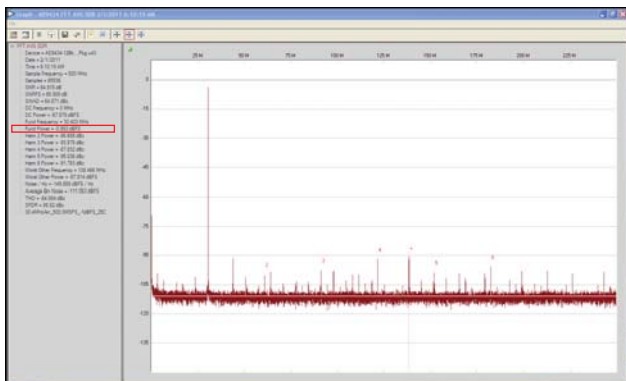

Figure 13. Graph Window of VisualAnalog
- Adjust the amplitude of the input signal so that the fundamental is at the desired level. Examine the **Fund Power** reading in the left panel of the **VisualAnalog Graph - AD9434 Average FFT** window (see Figure 13).